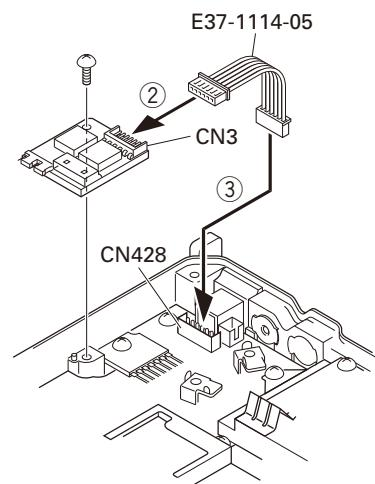

Fig. 3-2
5. Place the relay unit at the position shown in Figure 3-2 and secure it to the chassis with a screw.
6. Remove the cap on the rear of the chassis by pushing it from the inside with your finger. (④)
7. Pass the 6-pin connector of the cable (E37-1113-15) through the chassis hole (⑤) and insert the bush into the chassis hole.
8. Rotate the bush of the cable 90 degrees counterclockwise as viewed from the rear of the chassis. (⑥)
9. Insert the 6-pin connector of the cable into the connector (CN2) of the KAP-2 relay unit. (⑦)